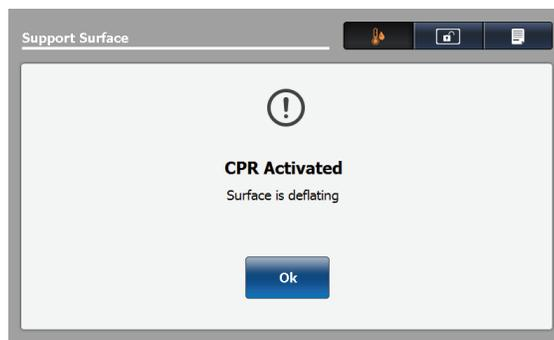

Figure 42: CPR Activated — Surface is deflating
- After you activate the CPR straps or CPR release pedal the screen displays (Figure 42 on page 63).